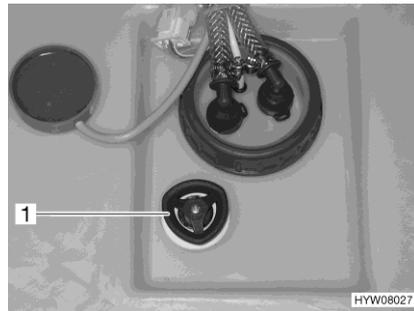

Fig. 153 Rotary handle (water tank)
- Turn the rotary handle (Fig. 153,1) on the water tank in a clockwise direction as far as it will go.
- Turn the rotary handle (Fig. 153,1) on the water tank 3/4 of a turn it in an anticlockwise direction. Excess water will drain away leaving approx. 20 litres in the tank.
- Turn the rotary handle (Fig. 153,1) on the water tank in an anticlockwise direction as far as possible beyond the resistance to fully open the drainage opening.